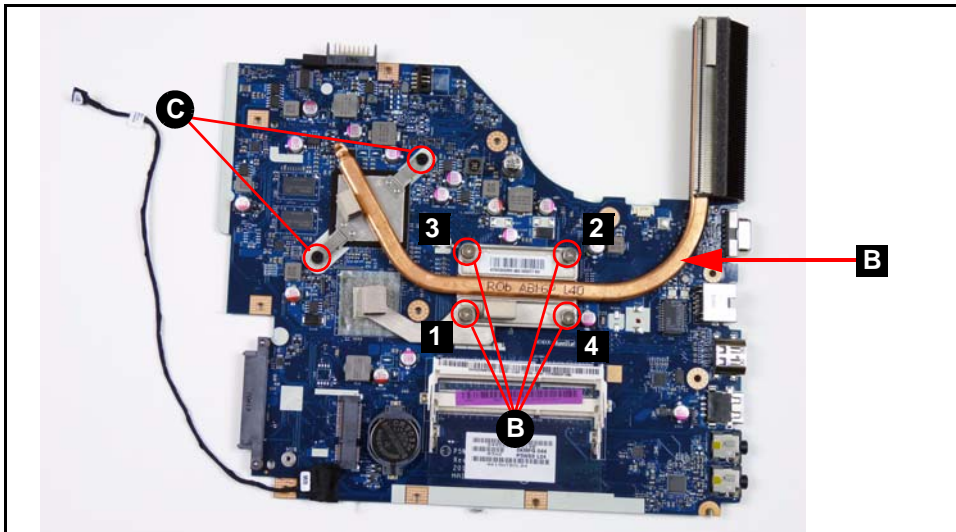

Figure 3-33. Thermal Module
1. Find heatsink (A) on mainboard. (Figure 3-33)
2. Remove four (4) thermal screws (B) from heatsink. (Figure 3-33)
3. Loosen two (2) captive screws (C) from heatsink. (Figure 3-33)